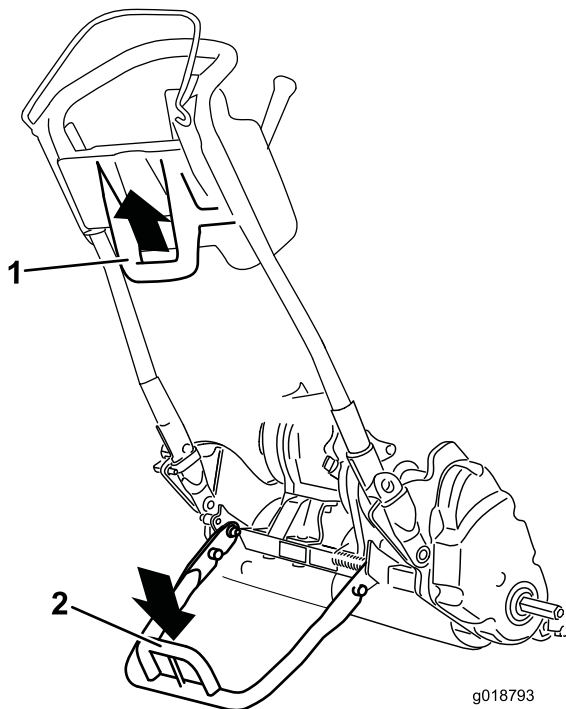

Figure 26
- To use the kickstand to install the transport wheels, lower it to the ground and step down on the kickstand loop while pulling up and back on the lower center machine handle (Figure 26).